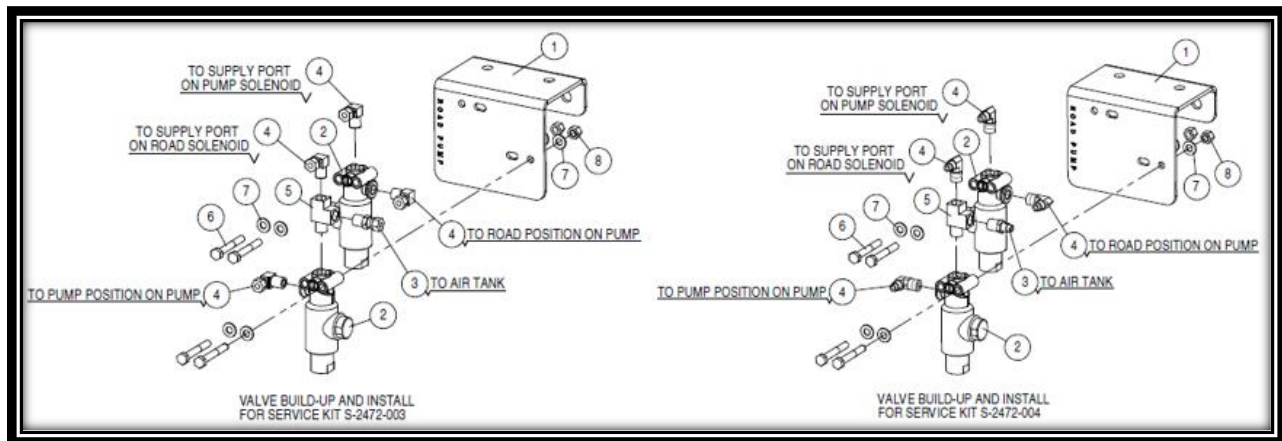

FIG 9.1
Refer to Fig 9.1.
28. Attach the solenoids to the bracket using 05180225H8Y (Item 6), 05FWSAE8Y (Item 7) and 0518LN8Y (Item 8). Torque bolts to 21 lb-ft. Refer to Fig 9.1.
31. If the pump shift solenoid is supplied from the primary tank install an airline from the air tank to the straight fitting on the supply port of the new solenoid. Run an air line between the supply port fittings. Refer to Fig 9.1.